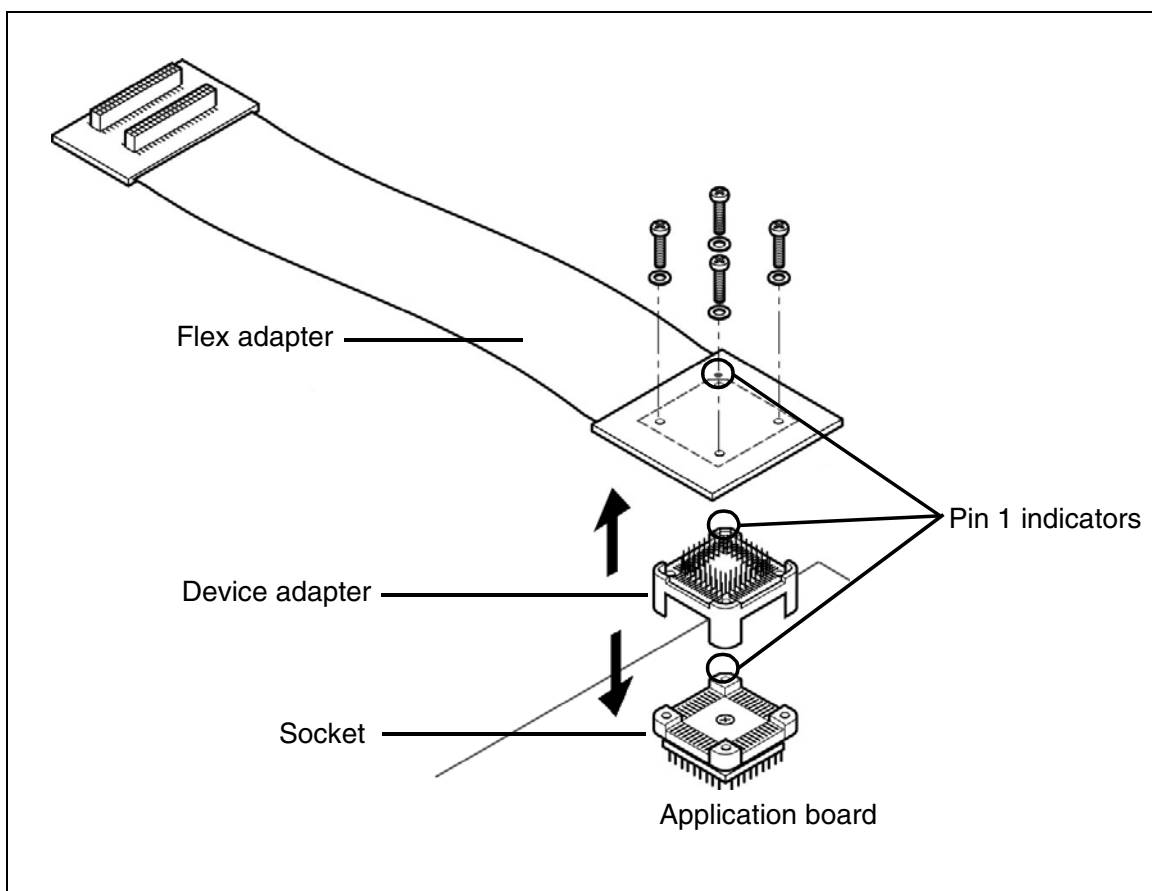

Figure 5: TQFP64 (14 x 14) connection scheme
- 2 Align the pin 1 indicators on the TQFP64 (14 x 14) device adapter to the DB513 flex adapter, then insert the pins of the device adapter into the flex adapter (see Figure 5).
- 3 Insert the flex adapter into the socket soldered on your application board as shown in Figure 5.